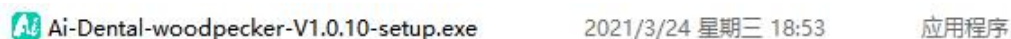

Figure 1
3.1.1 The software installation package is stored in the U disk of the equipment box. Double-click the installation program, as shown in Figure 1: